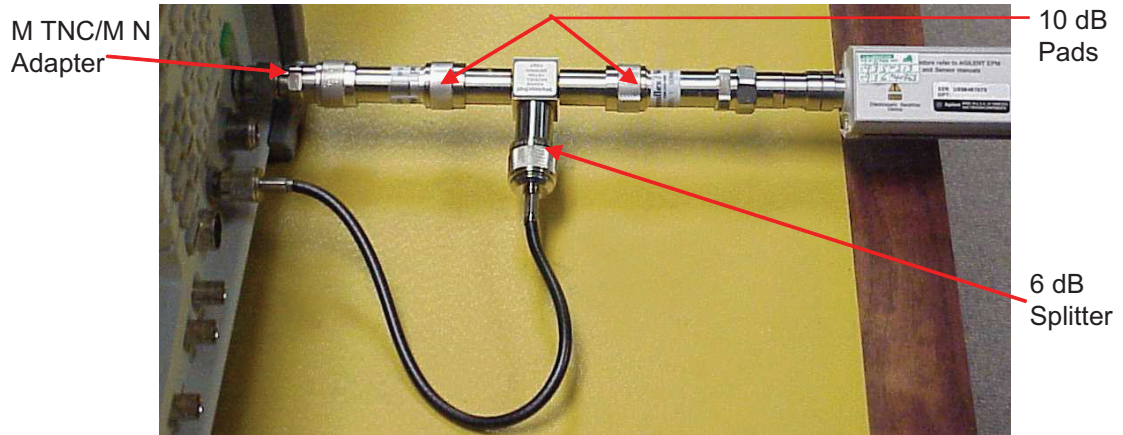

Fig. 4-28 Port Delta Calibration Setup
3.	Configure equipment. Refer to Fig. 4-28 as needed.